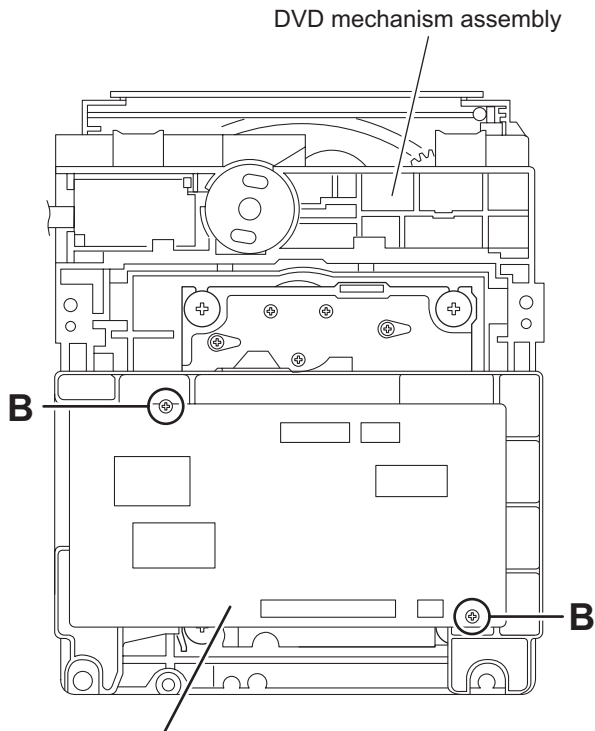

Fig.2
(2) Remove the two screws **B** attaching the DVD module board. (See Fig.2)